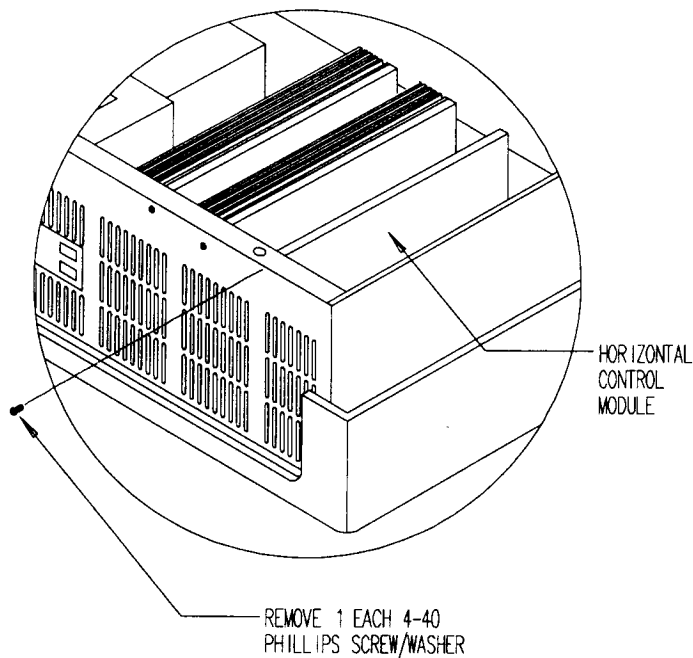

FIGURE 9-12. H.O.T. Control module replacement.
- **If necessary**, adjust trimmer capacitor, C28 on the Amplifier Card (component side) under test to obtain equal levels (balance) of the black resolution lines in both the vertical and horizontal resolution blocks. See FIGURE 9-12.
- STEP 2. Remove the single 4-40 phillips screw and lock washer securing the Horizontal Control Module to the rear panel. See Figure 9-12